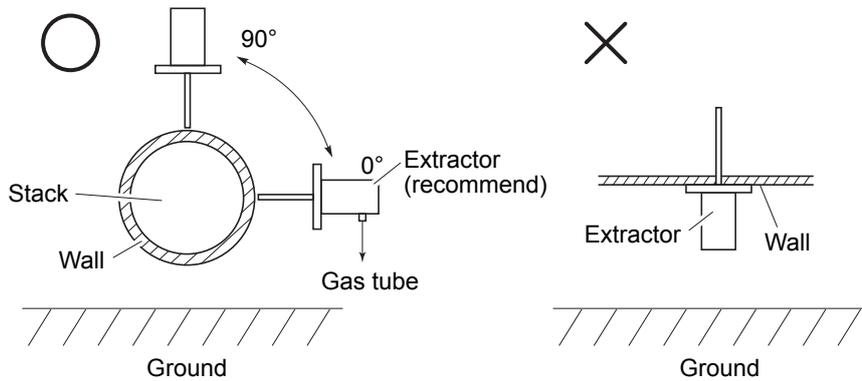

Fig. 1-5
- (1) Sampling gas temperature is within the specified range (general use: 800°C in max, high temperature: 1300°C in max.).
- (2) Perform processing or installation of mating flanges or protective tubes in advance to conform with the insertion angle limitations of each extractor.
- Limits of insertion angle (See Fig. 1-5)